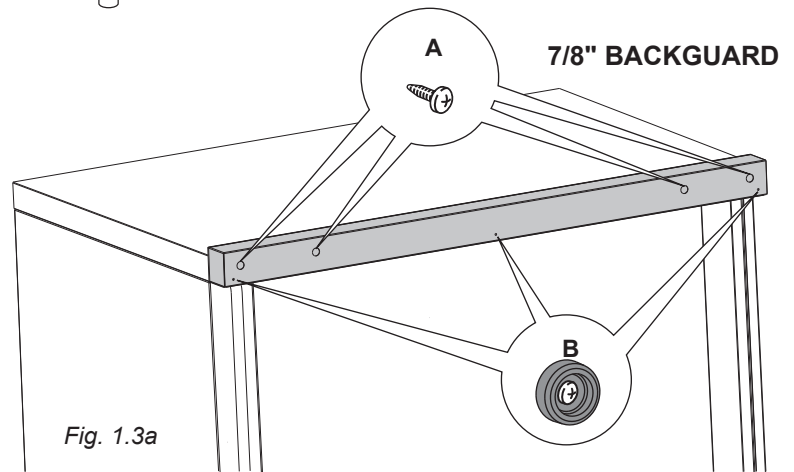

Fig. 1.3a
- If replacing the 7/8" backguard with the 3" backguard, assemble it by using the same screws/spacers used for fixing the 7/8" backguard (figs. 1.3a, 1.3b).